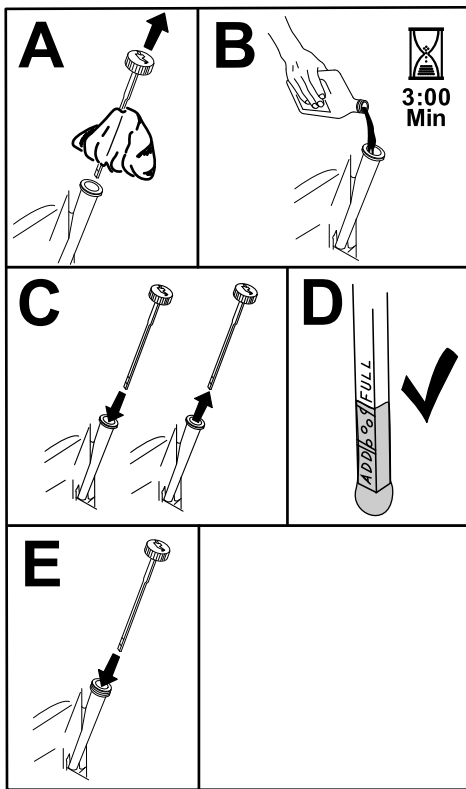

Figure 37
5. Slowly pour approximately 80% of the specified oil into the filler tube and slowly add the additional oil to bring it to the Full mark (Figure 37).